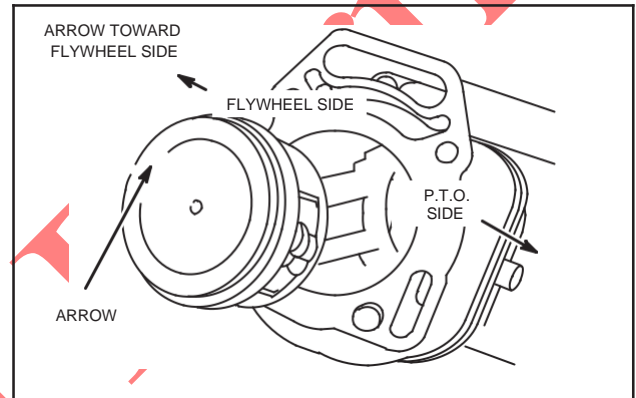

Fig. 3 - Installing Piston And Connecting Rod
3. Install #1 piston with arrow towards flywheel side, Fig. 3.